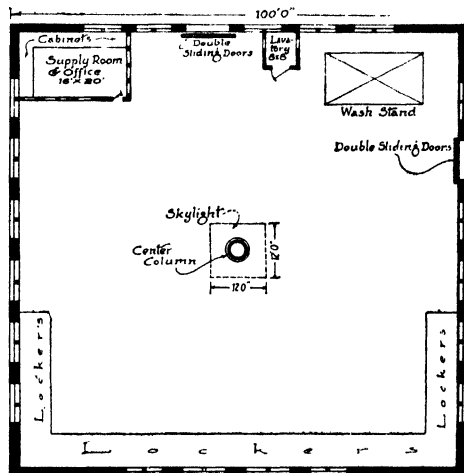

Fig. 9. Brooklyn Medium Size (100 x 100) Garage, Located on Corner
**Typical Arrangements.** *Layout 6.* In the following, a garage is considered of medium size, which has a floor space of approximately 10,000 to 12,000 square feet. In a square form, this gives from 100 x 100 to 100 x 120 feet, and in a long narrow form, 60 x 200 feet, with various other forms in between these two. As a matter of fact, neither the exactly square form nor the unusually long and very narrow shape is an advantageous one. A floor plan of a Brooklyn, New York, public garage is shown in Fig. 9. This garage measures exactly 100 feet each way. It is on a corner, with an
entrance on each street. Moreover, the single central post appears to give a maximum of floor space. The supply room and the office are small, and apparently little space is wasted or taken up for things other than car storage. Yet, when we come to figure out the number of cars which this building will store—only 30, as can be figured from the plan, Fig 9, and with little or no aisle room, so that cars would have to be moved every time one not in the first row was taken out—the truth of the statement that the square shape is not economical is proved. By inspecting this layout for an opportunity to improve upon it, we see that only two things can be rearranged to advantage. One is to reduce the number and size of the lockers. This size and arrangement may have been forced by local conditions, competition, or by some other reason, but even that arrangement of lockers is not as good nor as economical of space as if they were grouped in one corner.